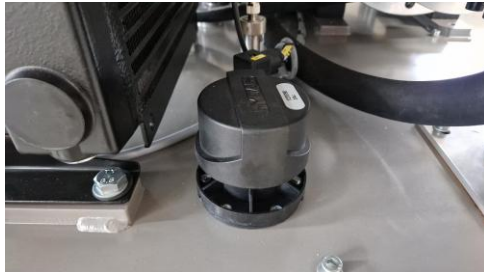

Fig. 73
- Loosen the cap on the filler neck (Fig. 73). Insert the suction tube of the oil changer and hang the drain line in the corresponding oil collecting container.